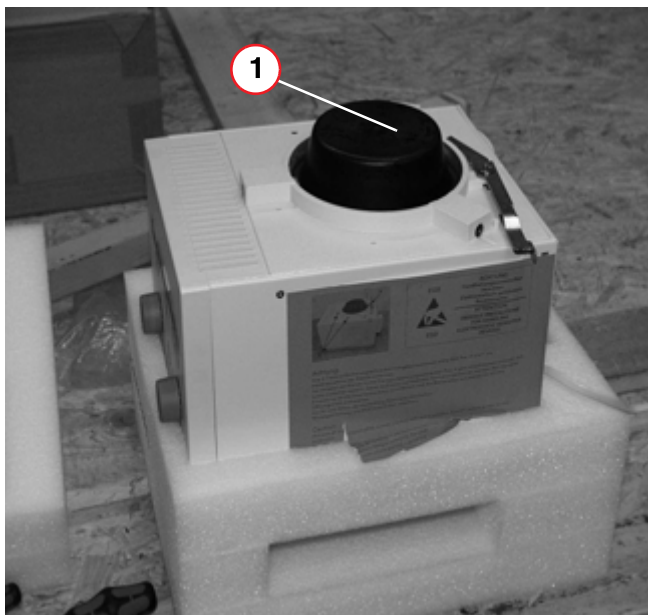

Fig. 27: Collimator installation
- Remove the protective cover from the collimator (1/Fig. 27 / p. 26) by removing the Allen screws and threaded pins.